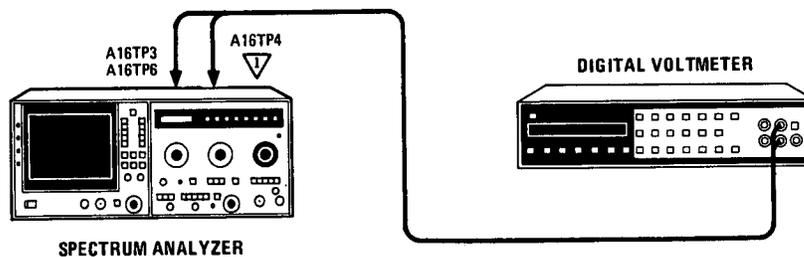

Figure 5-24. Sweep Generator Adjustment Test Setup, Voltage Measurements
2. Reconnect power cord, set LINE switch ON, and connect equipment as shown in Figure 5-24. Set all normal (green) settings, except as indicated, and other spectrum analyzer controls as follows: